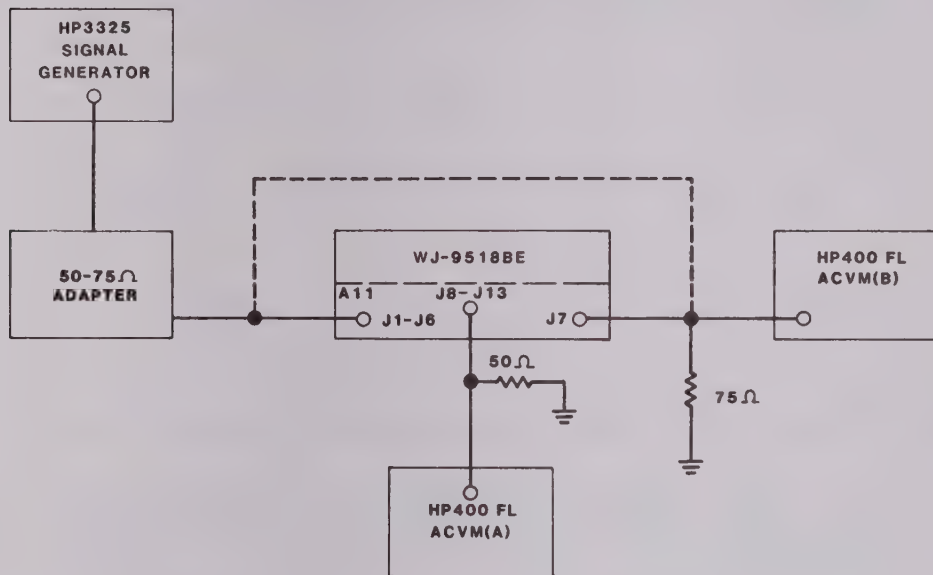

Figure 4-1. Baseband Amp Performance Test, Equipment Connection
1. Connect the test equipment as illustrated by the dotted line and set a reference level on ACVM(B) of -10 dBm by varying the signal generator output level in **Figure 4-1**.
2. Connect the test equipment as illustrated by the solid lines in **Figure 4-1** and tune the signal generator to 1001 kHz.